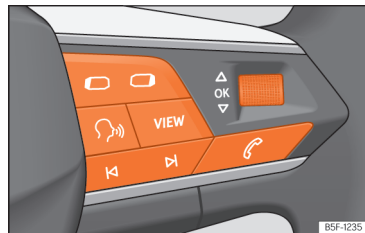

Fig. 12 Right side of multifunction steering wheel: buttons to the menus and informative indications on the instrument panel (depending on the version).
As long as a priority 1 >>> page 22 warning is active, it will not be possible to access any menu. Some warnings can be confirmed and hidden with the button **OK** of the multifunction steering wheel >>> Fig. 12.
- If a message or vehicle symbol is displayed, press the button **OK** >>> Fig. 12; several times if necessary.